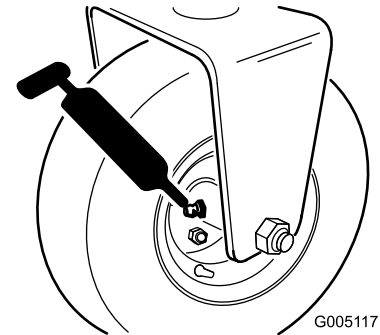

Figure 28
- Rear-roller-hub assembly or, if equipped with a 3-wheel-drive kit, rear-wheel-roller clutches and external ball bearing (1) (Figure 28)